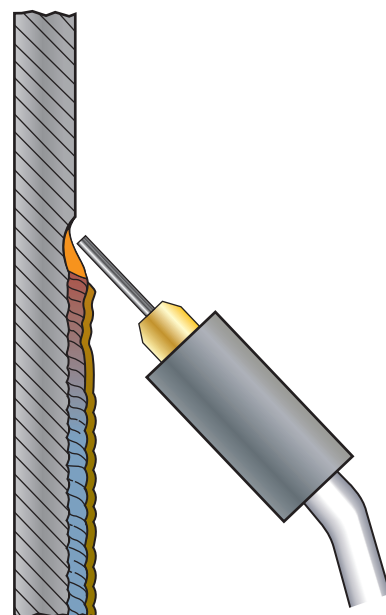

FIGURE 13-16 Vertical up gun angle.
- **Out-of-position welds**—this technique works well on vertical up and overhead joints for better control of the weld pool, Figure 13-16.